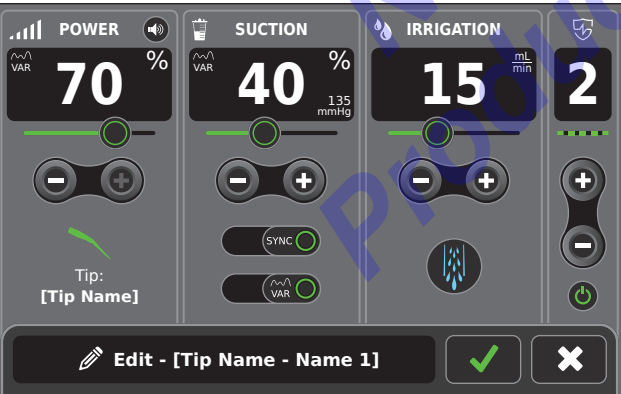

Figure 63 – Confirm Preset Settings
4. From the preset SETTINGS screen, edit the power, suction, and irrigation settings as required (Figure 63).